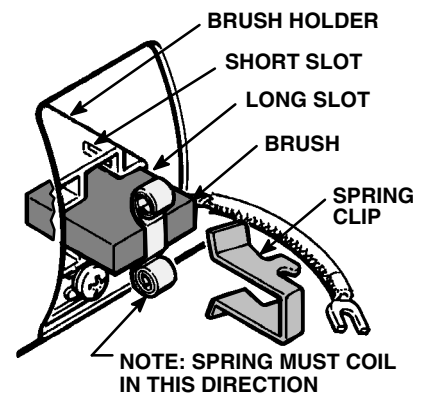

Fig 25-4
6. Place a new brush in the holder so the lead is in the long slot of the holder. Slide the terminal under the terminal screw washer. Ensure the motor lead is still connected at the screw. Refer to Fig 25-4.
7. Place the spring on the brush as shown in Fig 25-4. Do not install backwards to avoid damage when the spring clip is installed.
8. Install the spring clip and push it down until its hooks catch the short slots in the housing. Refer to Fig 25-4. Incorrect installation may jam the clip.